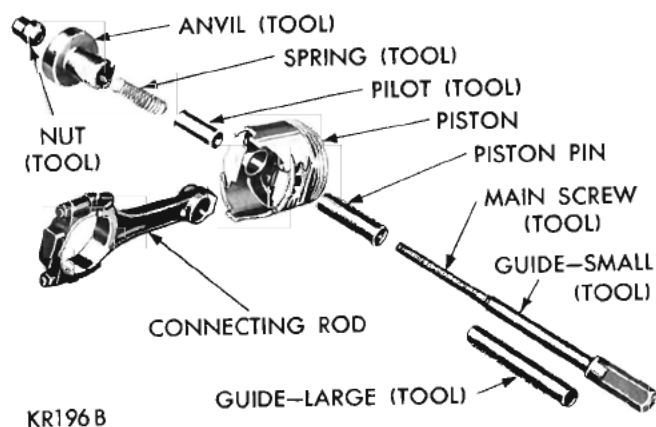

Fig. 108—Tool Arrangement for Installing Piston Pin Tool C-3684
(1) Test the piston pin fit in the piston. It should be a sliding fit in the piston at 70°F. Piston pins are supplied in standard sizes only.
(2) Lubricate the piston pin holes in the piston and connecting rod.
(3) Arrange the tool parts for installation of the piston pin, as shown in Figure 108.
(4) Install the spring inside the pilot and install the spring and pilot in the anvil. Install the piston pin over the main screw.
(5) Place the piston, with "front" up, over the pilot